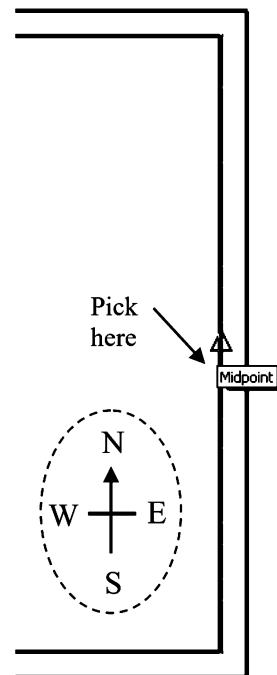

FIGURE 2-1.6 Interior wall start point
- Drawing a wall between bedrooms: *Snap* (you will see a triangle symbol appear before clicking) to the midpoint of the east wall (Figure 2-1.6). Do not click the second point yet; see the next step to finish the wall.